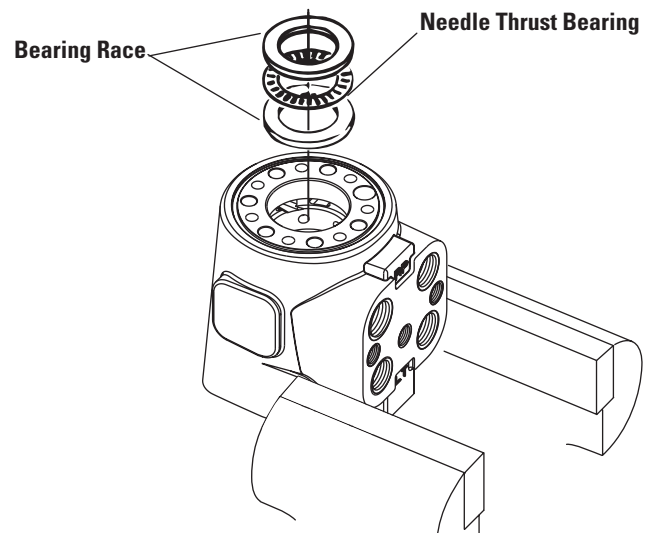

Figure 20
- Install two bearing races and thrust bearing as shown in figure 20.